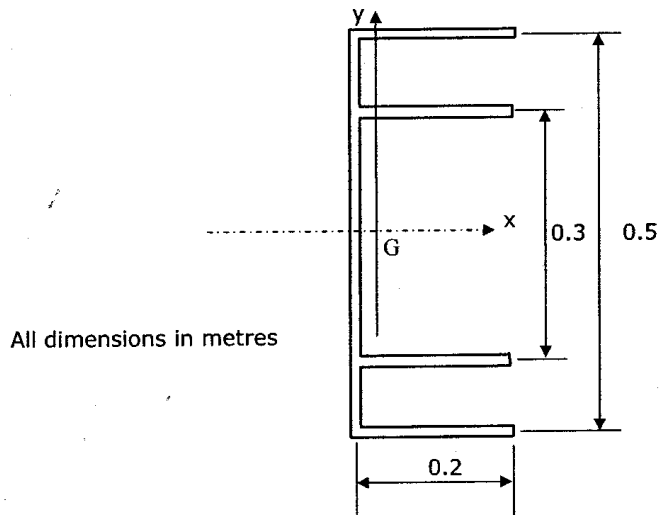

Fig Q3
3. The double channel, thin-walled section shown in Fig. Q3, has a uniform wall thickness throughout of 20 mm. All four flanges are of equal length, 0.2 m. The x-axis shown is an axis of symmetry. Determine: